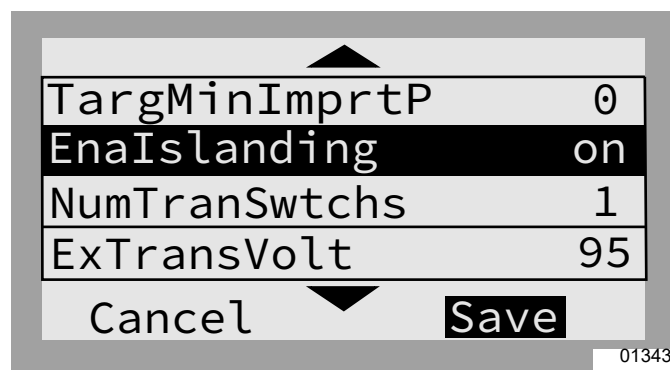

Figure 7-22. ACPV + Battery with a PWRcell ATS and SMMS
- See Figure 7-22, Figure 7-23, Figure 7-24, and Figure 7-25. Inverter “Mod. Settings:”